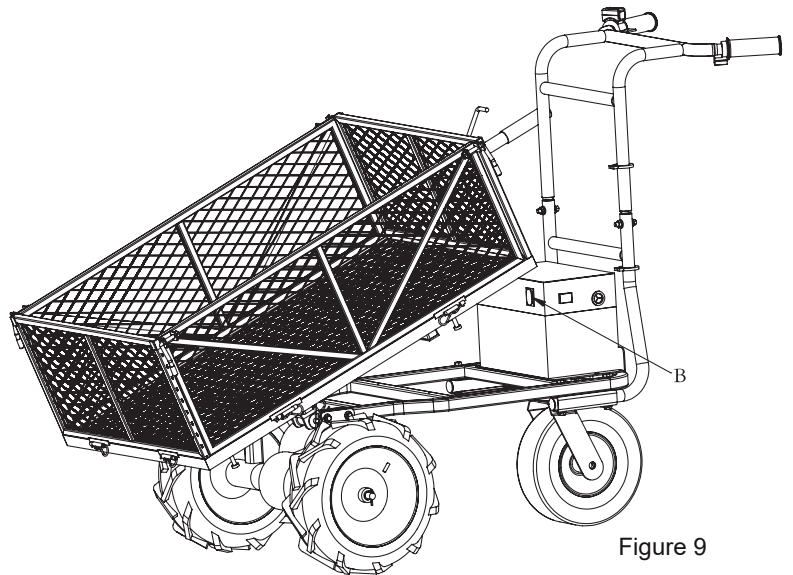

Figure 9
1. Turn on the power switch (B). (See figure 9)